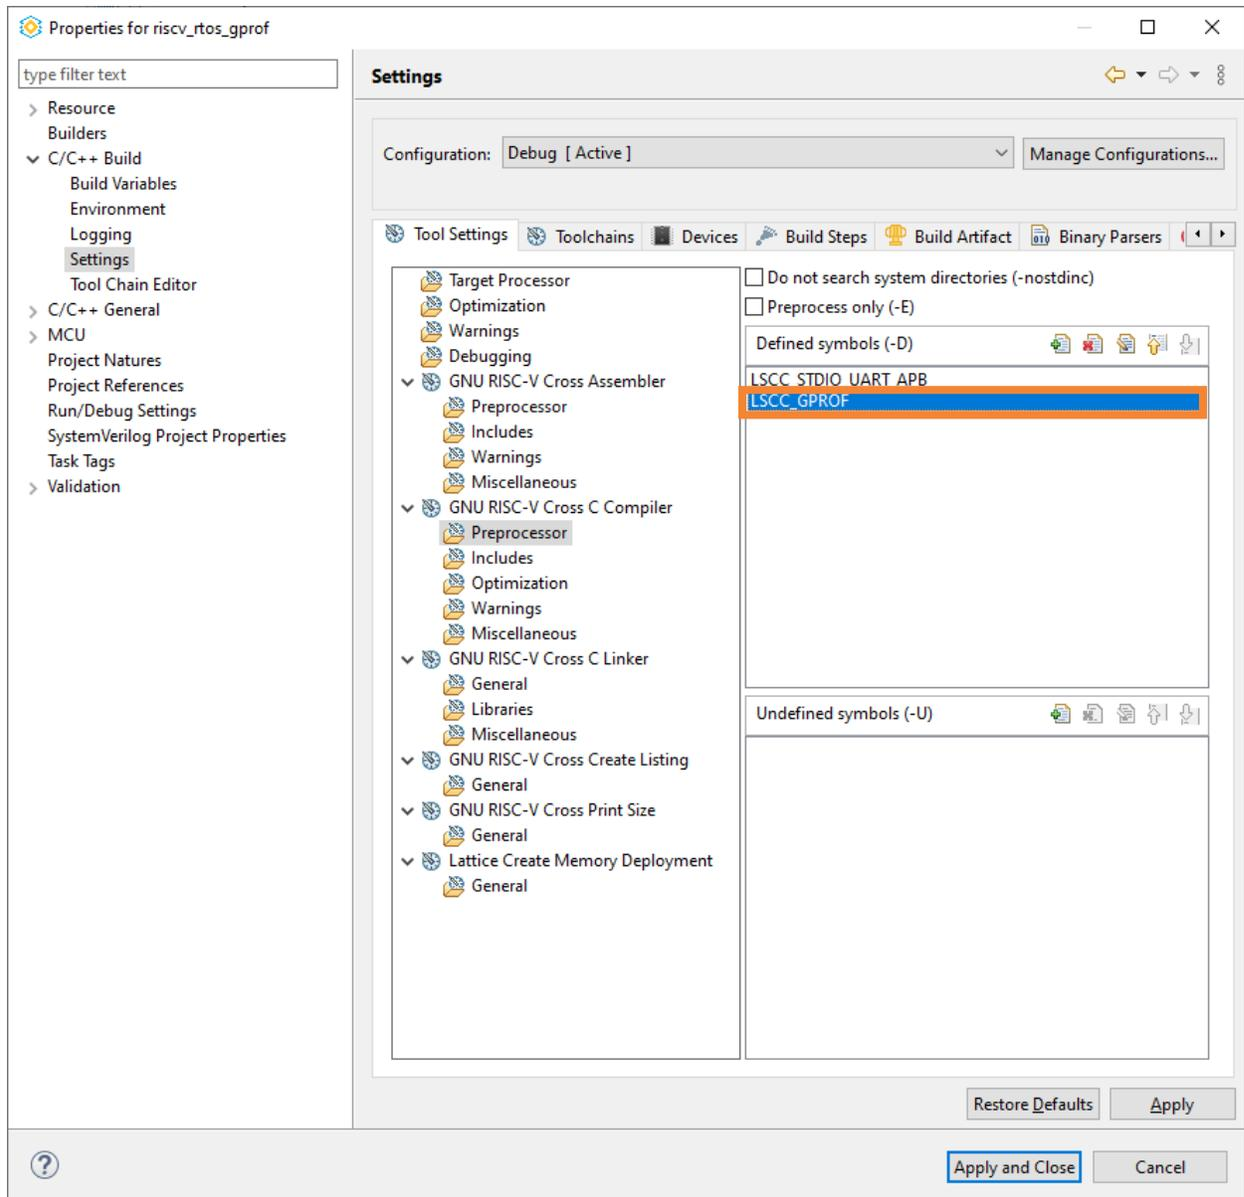

Figure 7.6. LSCC\_GPROF Symbol
4. Select **GNU RISC-V Cross C Compiler > Preprocessor**. Add the defined symbol, `LSCC_GPROF` (Figure 7.6).